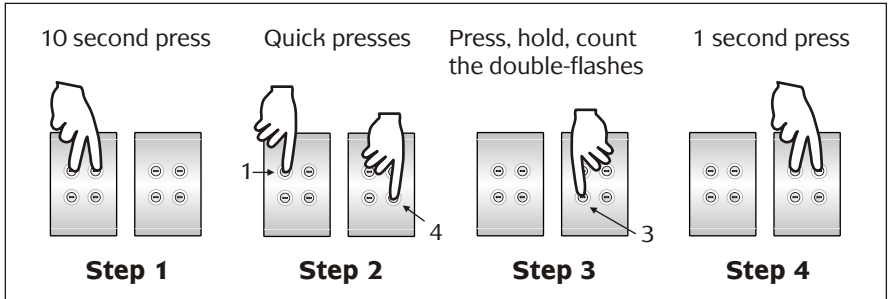

Figure 8 – Grouping a local control button with a timer button pair
4) Press and hold the top two buttons for 1 second, to exit learn mode. In the example in Figure 8, buttons 3 and 4 of the Saturn unit on the right will work as a timer pair for button 1 of the unit on the left. Button 4 will switch button 1 on with the timer (to switch off after the timer period expires). Button 3 will switch button 1 on or off with no timer.